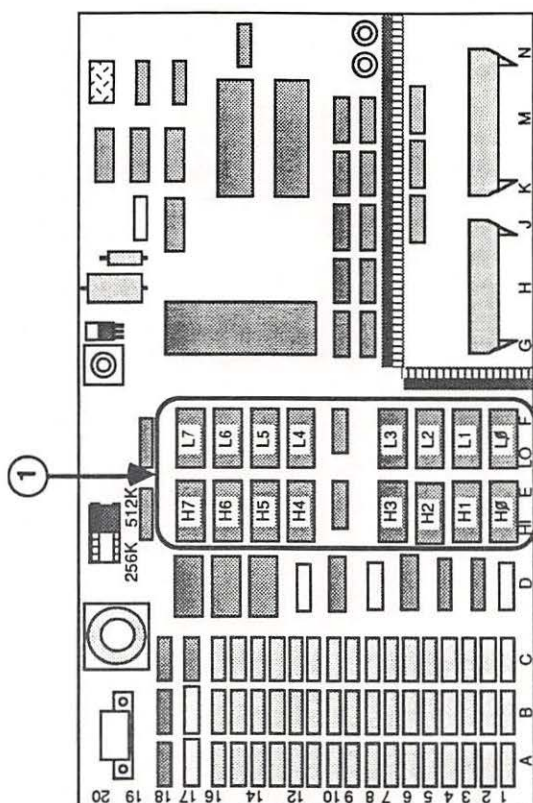

FIGURE 2
8. One at a time, carefully remove the new ROMs from their antistatic pad, handling them by the body, not the leads. Match the markings on the ROMs with the appropriate socket (see Figure 2, #1). Install the ROMs. Make sure you install the ROMs so that the notch along the edge of each ROM is on the left.